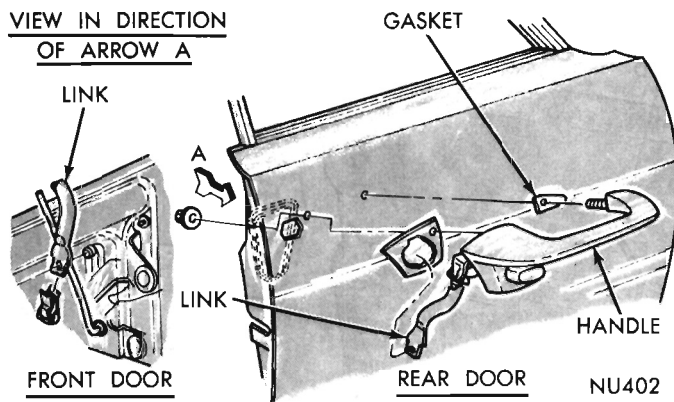

Fig. 28 - Outside Door Handle
- (1) With door glass in up position, remove handle attaching nuts from mounting studs (Fig. 28) and link from handle to lock.
- (2) Lift handle up and remove from door.
- (1) With door open and glass in up position, remove link retainer at handle connector (Fig. 28).
- (2) Depress outside handle release button and remove link from handle connector.
- (3) Remove handle to door nuts.